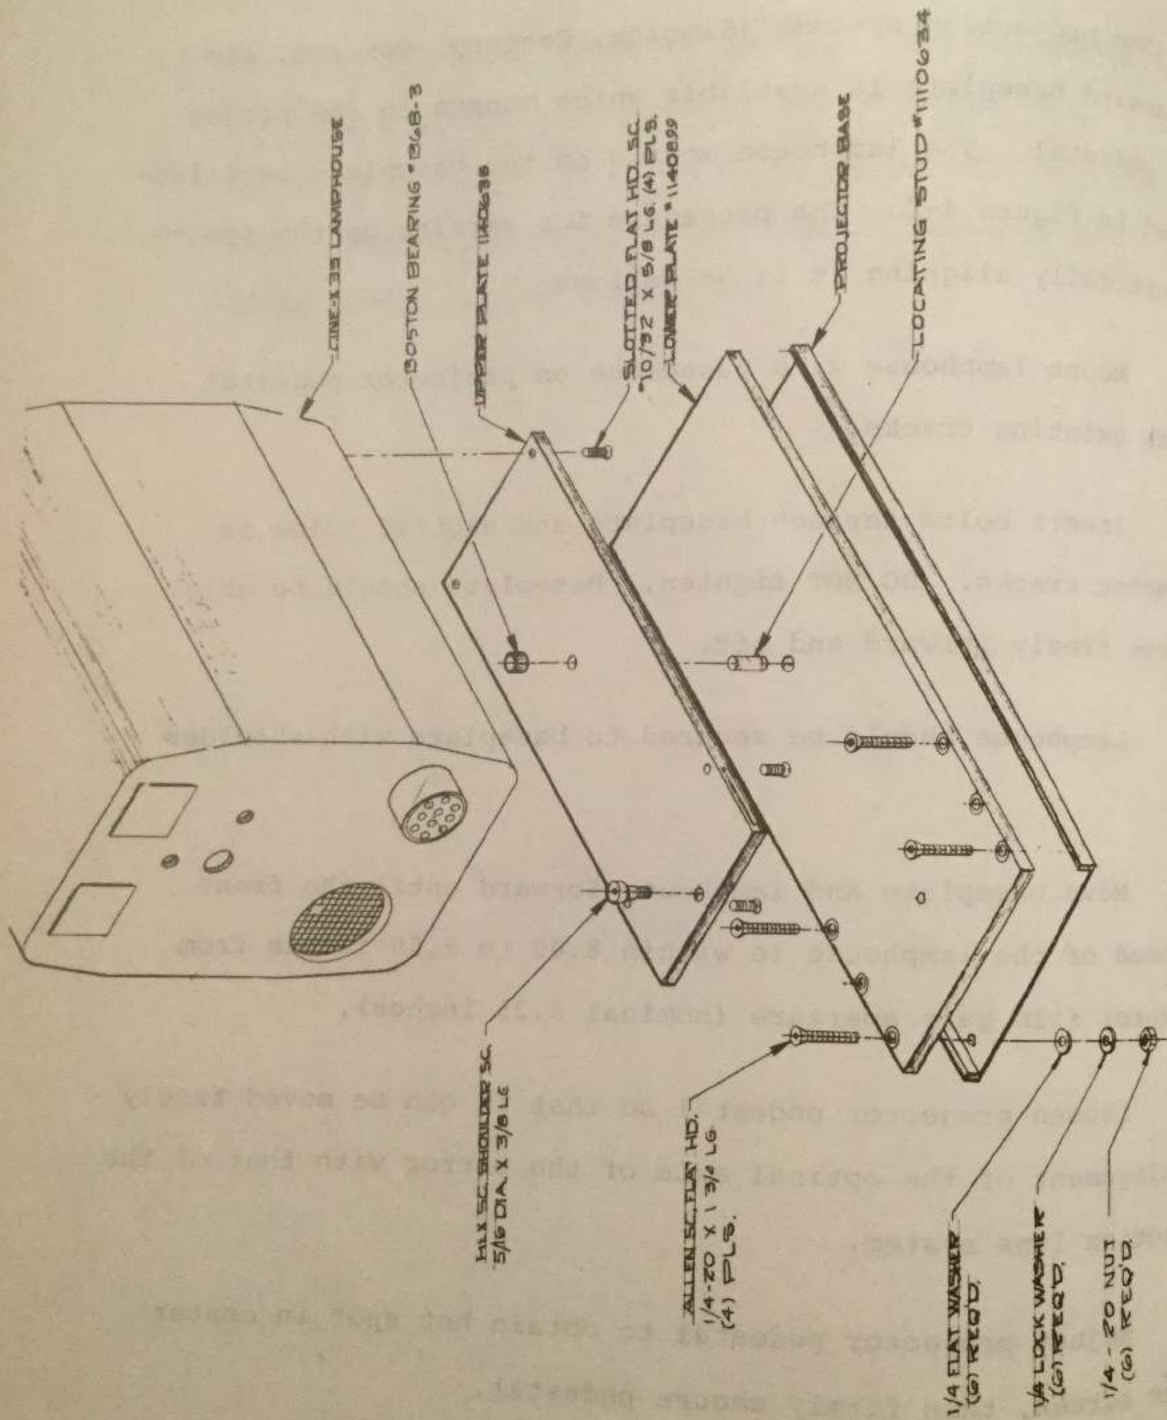

Figure 4-5. 35mm Mounting Kit Swivel Assembly
For 35mm projection systems (Simplex, Century, Norelco, etc.), a standard baseplate is available which mounts on the projection pedestal. The lamphouse mounts on the baseplate as illustrated in figure 4-5. The procedure for setting up the system and optically aligning it is as follows:
- i. Secure lamphouse base to projector pedestal (figure 4-5).